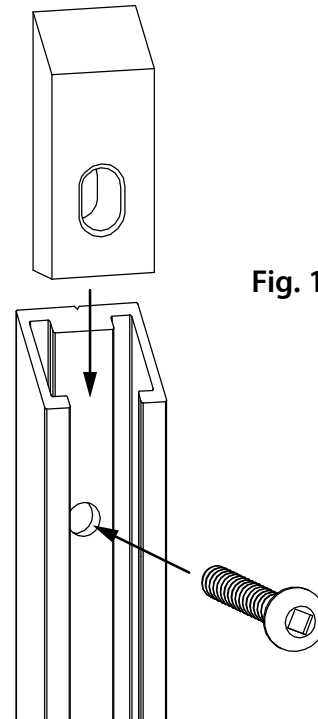

Fig. 14
6. TOP SCREW AND STOPPER INSERT (FIG. 14)